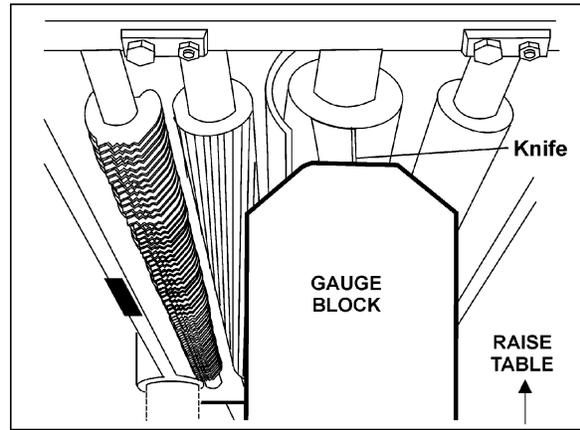

Figure 21
2. Place the gauge block (Figure 21) on the worktable directly under the edge of a knife as shown. Make slight contact by gently raising table.